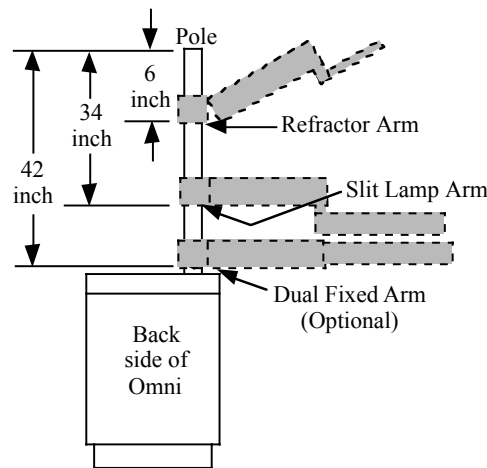
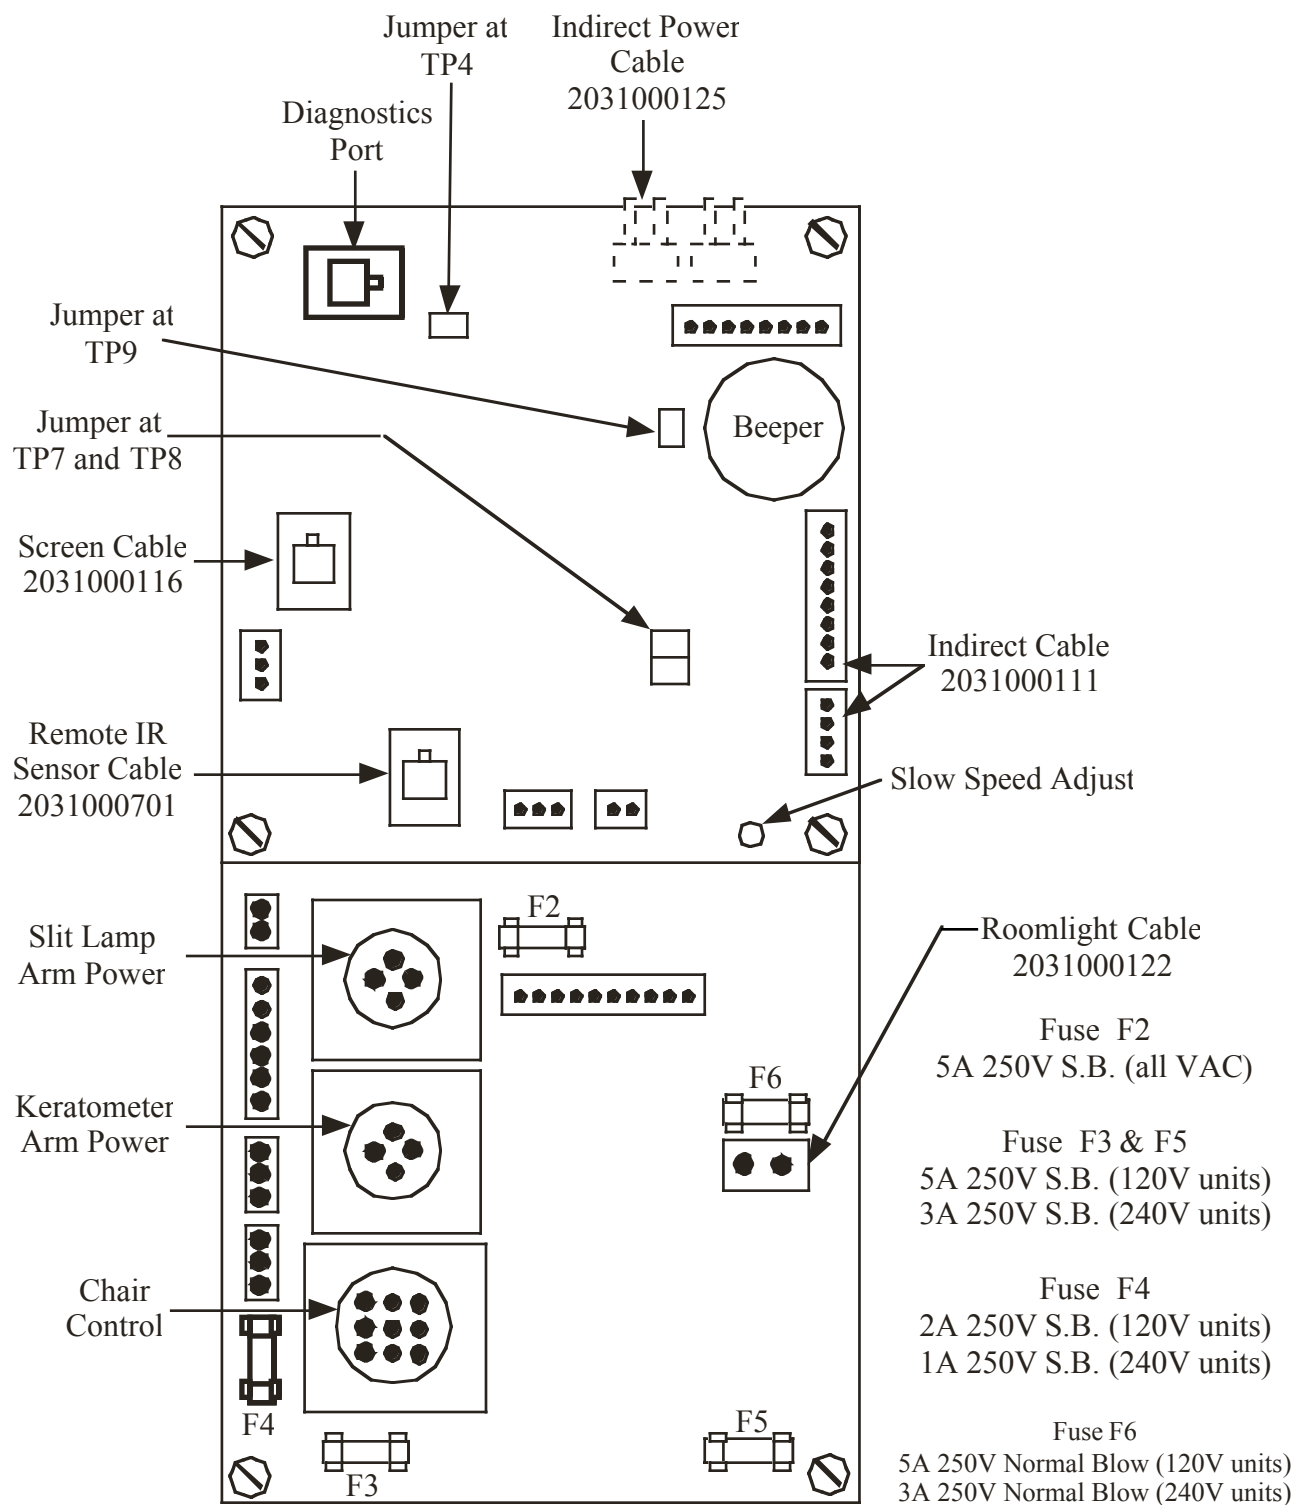

Figure 3.2: Instrument arm mounting locations
Figure 3.3: Omni PINNACLE Printed Circuit Board
- 3.2.12 Lift the slit lamp arm or optional dual fixed arm (1 person required) over the pole, and slide it down the pole to the height desired. See Figure 3.2 for the suggested optimum mounting location. Securely tighten the set screws using a 3/16 Hex wrench to hold the arm in place. Feed the cord from the arm down through the pole (or the cabinet top hole) and plug into the slit lamp arm connector on the electrical receptacle panel. If an optional dual fixed arm is used, connect the second cable to the keratometer arm connector on the electrical receptacle panel. See Figure 3.3 for the Omni PINNACLE connector mounting location.
- 3.2.13 Lift the refractor arm (1 person required) over the pole, and slide it down the pole to the height desired. See Figure 3.2 for the suggested optimum mounting location. Securely tighten the set screws using a 3/16 Hex wrench to hold the refractor arm in place.
- 3.2.16 Optional. Clamp the indirect (BIO) hanger onto the pole or mount to the wall by using the optional wall mounting kit. Secure the indirect hanger clamp by tightening the two screws with a 5/32 Hex wrench. Feed the indirect cable into the Omni PINNACLE (down the pole if mounted on the pole or through the large wire hole on the side). Mate the other end of the 2-pin power cable into the top of the electronic board and the 8-pin LED cable onto the middle right portion of the electronic board marked INDIRECT. See Figure 3.3 for the Omni PINNACLE connector mounting location. Secure the cables in one of the wire clamps provided. See section 3.3.4 for indirect voltage options.
- 3.2.17 Place the chair cable through the large wire hole in the delivery cabinet, route the cable through the provided wire channel (under the access door), and mate into the 9-pin connector marked CHAIR on the bottom left corner of the electronics board. See Figure 3.3 for the Omni PINNACLE connector mounting location. Plug the power cord of the chair into a grounded wall outlet. (NOTE: Using a non-Topcon chair may require an adapter, see Table 1 for pin functionality. The chair supplies AC power to the Omni PINNACLE, and the Omni PINNACLE acts as a switch and returns the power to the chair to make it go up and down.)
The indirect voltage is factory set at 6 volts, but is designed for an easy field change to 5, 7.5, and 12 volts. To change the voltage, open the Omni PINNACLE side door in the delivery cabinet and change the jumper(s) on the circuit board to the configuration needed for the desired operating voltage. See Table 2 for the jumper configurations and Figure 3.3 for their locations. Once set, plug the indirect into the twist-lock connector on the bottom of the indirect hanger. Hang the indirect headset onto the hook.
Once wired, connect the room light cable to the Omni PINNACLE by plugging into the 2-pin connector located in the middle right portion of the electronic board marked ROOMLIGHT. See Figure 3.3 for the Omni PINNACLE connector mounting location. Secure the cables in one of the wire clamps provided. Programming is described in Section 4: SYSTEM OPERATION.
The Omni PINNACLE can control fixation targets. Place the screen cable through the large wire grommet in the delivery cabinet, route the through the wire channel under the access door, and mate into the black connector marked SCREEN on the middle left side of the electronics board. See Figure 3.3 for the Omni PINNACLE connector mounting location. Mate the other side of the cable into the underside of the round, fixation target tube. Mount the tube and fixation light as required. Adjust the position of the round, fixation target tube for optimum viewing.